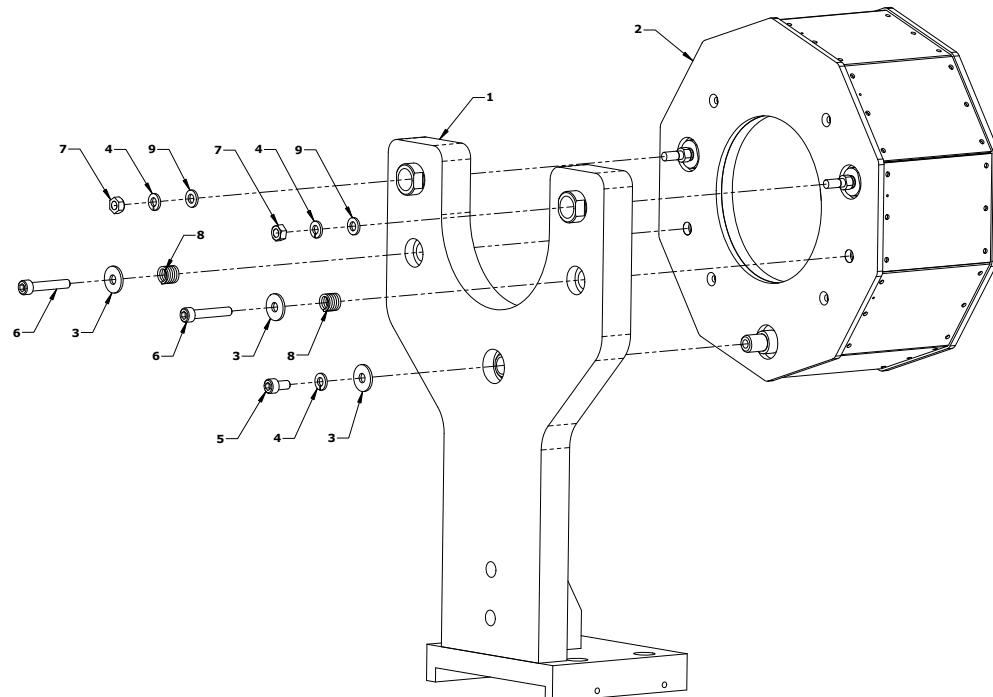

Figure 5-46
3. See Figure 5-46. Remove M6 socket screw (2109867-12, Item 5), lock washer (2109880-3, Item 4) and flat washer (2381270-7, Item 3) and set aside.
1. Mount the Septa into the holes in the Septa Support (Item 1) from the front side, as shown in Figure 5-46.
2. Place a flat washer (Item 9), lock washer (Item 4) and a nut (Item 7) set aside earlier on each of the top two (2) threaded ball joint links (on the Septa) through the holes in the Support. A special tool will be required to stop the ball joint links from rotating while the nut is tightened.
4. Loosely fasten two (2) M6 socket screws (2109867-17, Item 6), flat washers (2381270-7, Item 3) and Compression Springs (5237384, Item 8) set aside earlier to the Septa through remaining holes in the Support. Tighten only until they are snug. These will be adjusted during Septa alignment.